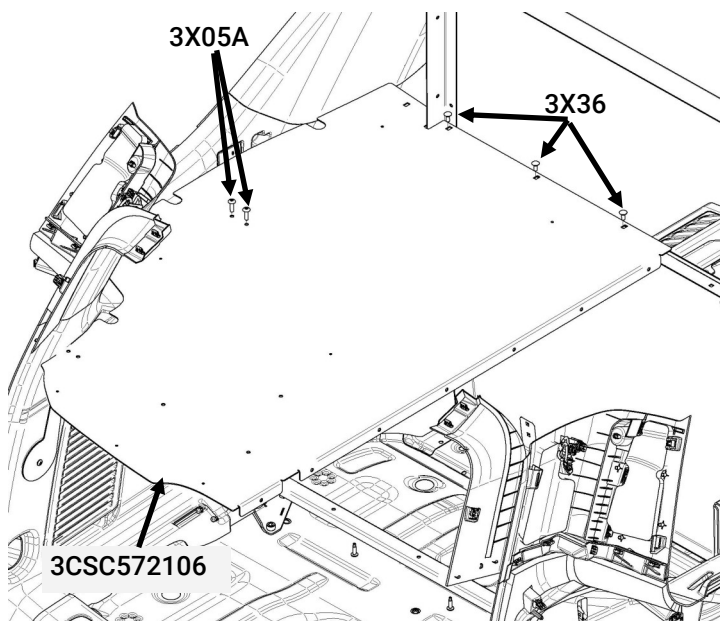

Figure 5
- A. Place the driver side cargo cover panel [3CSC572106] into the driver side of the vehicle on top of the previously installed brackets and fasten using (3) carriage bolts [3X36] and nuts [3X16Z] at barrier and (2) 1/4"-20 x 7/8" screws [3X05A] at center supports (Figure 5).
- C. On the under side of the shelf, there are two flanges that need to be connected. Align the (7) holes and loosely